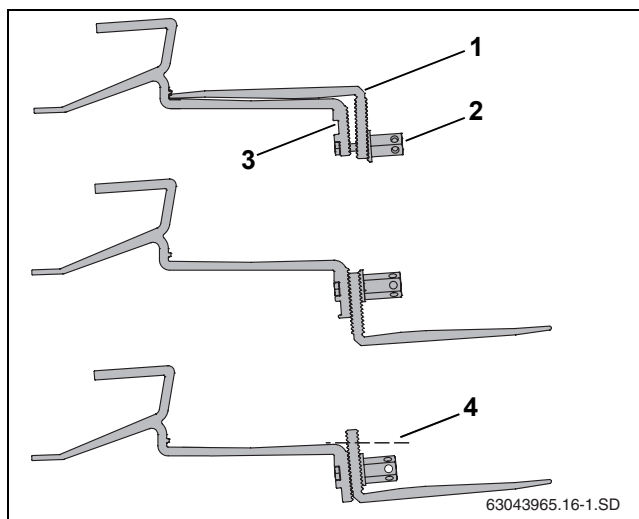

Fig. 18 Position lower part of roof hook again
- ▶ Loosen long hexagon nut (Fig. 18, [2]).
- ▶ Insert the screw in the upper hole (Fig. 18, [3]).
- ▶ Loosely fasten the lower part of the roof hook (Fig. 18, [1]). Do not tighten the connection yet.